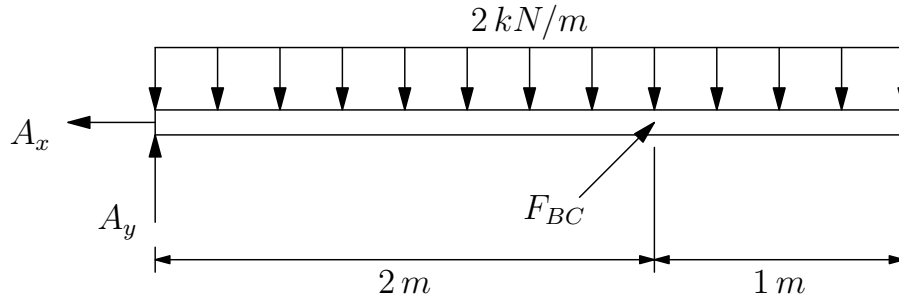

Figure 18
**Equations of Equilibrium:** Referring to the free-body diagram of the beam shown in Fig. 18,